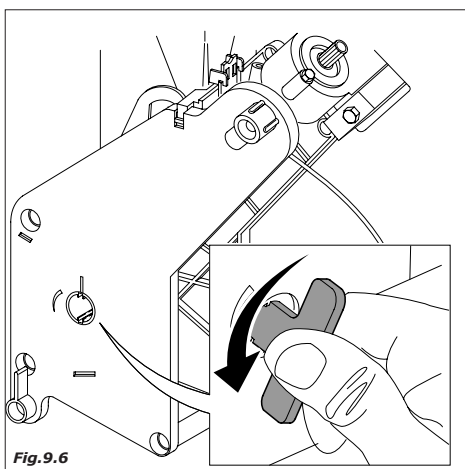

Fig.9.6
- remove all coffee powder residue; the unit can be removed from its housing to make the task easier (Fig. 9.6)